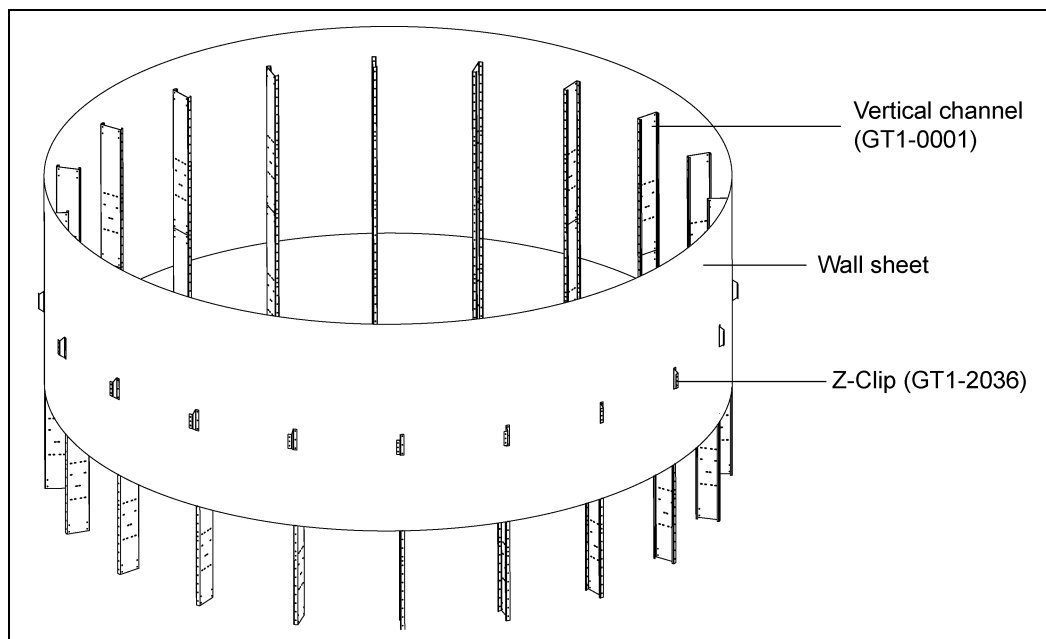
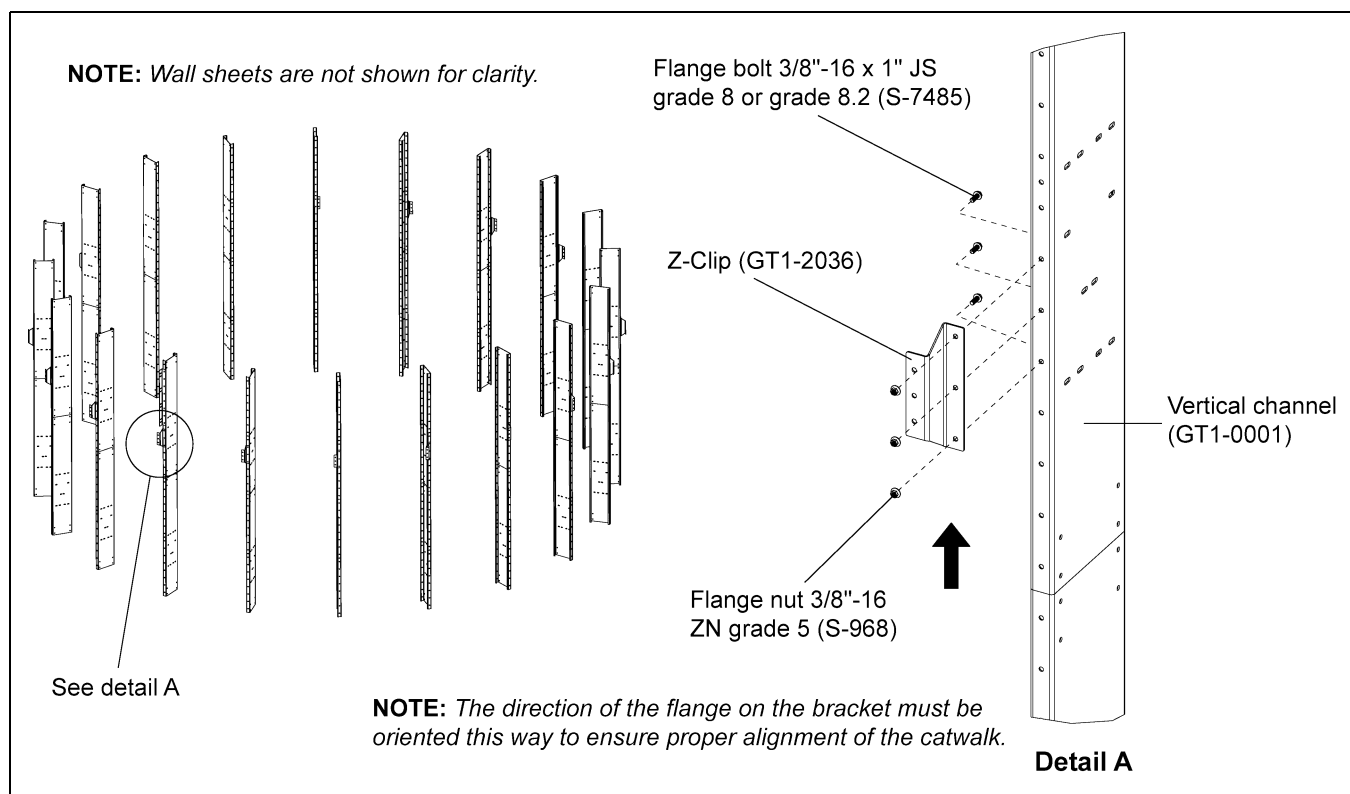

Figure 4A
Figure 4B
1. Bolt Z-clip (GT1-2036) to all vertical channels (GT1-0001). The Z-clip can be installed on each vertical channel as wall sheets are installed using 3/8"-16 x 1" JS grade 8 or grade 8.2 bolts (S-7485) and 3/8"-16 ZN grade 5 nuts (S-968). (See Figure 4A and Figure 4B.)